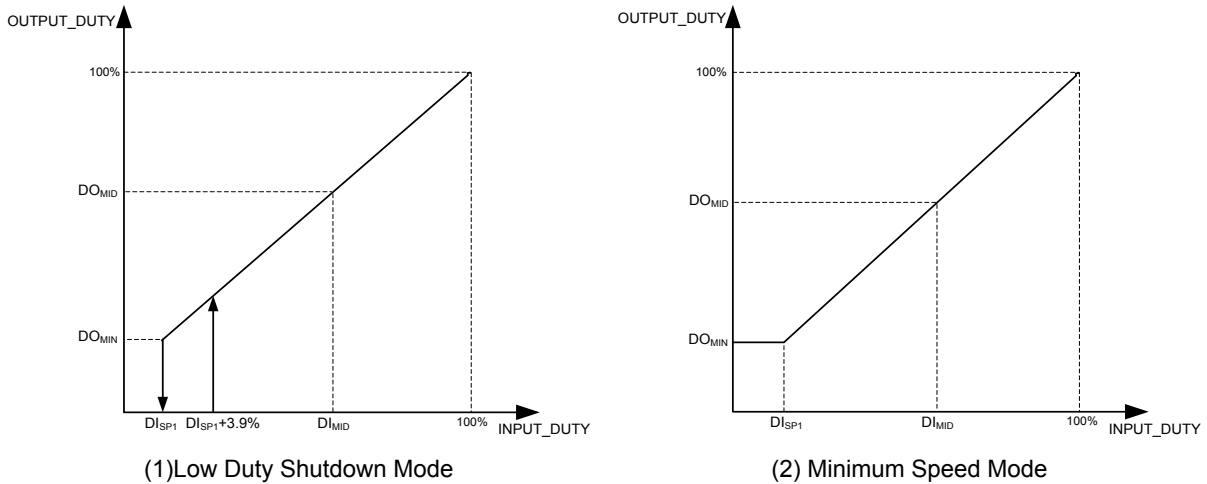

Figure1: Multi Mode Output Duty Control Curve
The APX9178A has two types PWM speed control curve, it select by SP1 pin voltage setting. The first type of PWM speed control curve (See Figure1: Multi Mode Output Duty Control Curve), it can set up low duty shutdown mode or minimum speed mode by VREF pin output current ( $I_{VREF}$ ) decision and the SP1 pin set up range is GND to VREF-0.3V. In this type (1), when PWM input duty is less than  $DI_{SP1}$ , the output will close. Until PWM input duty is rising more than  $DI_{SP1}+3.9\%$ , the output will startup.